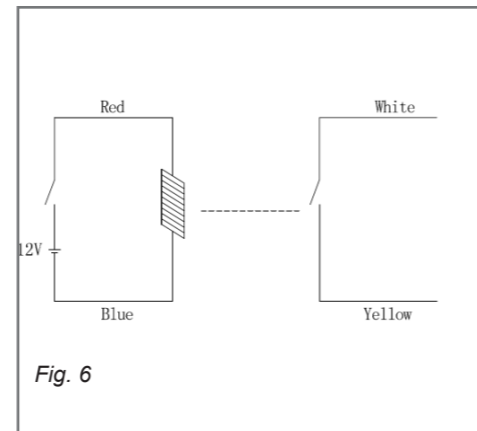

Fig. 6
- If the voltage at the solenoid drops, the locking pin retracts and the charging plug becomes unlocked. Remove the charging plug from the charging socket (refer to Fig. 6).